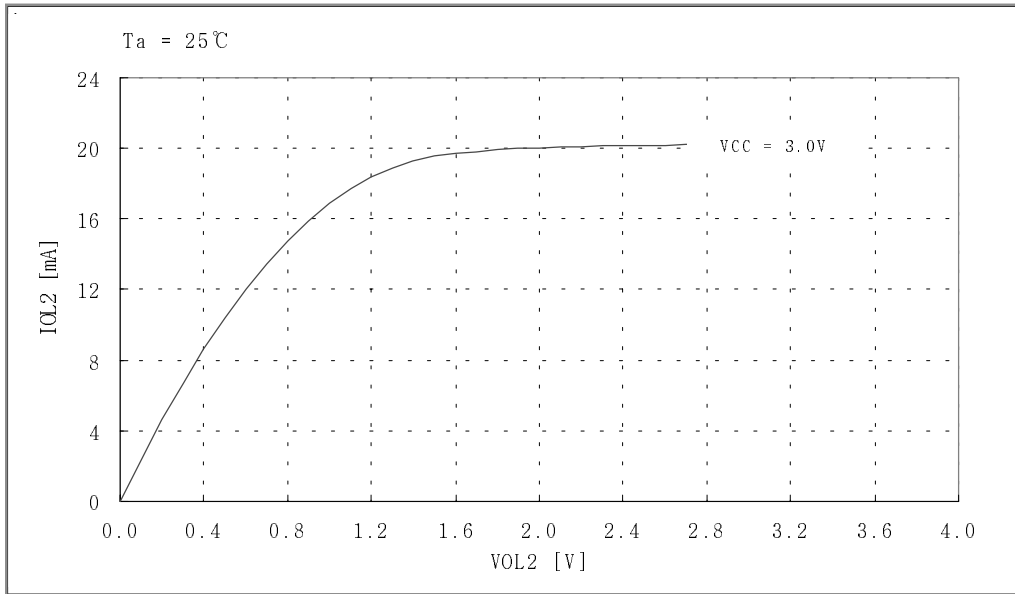
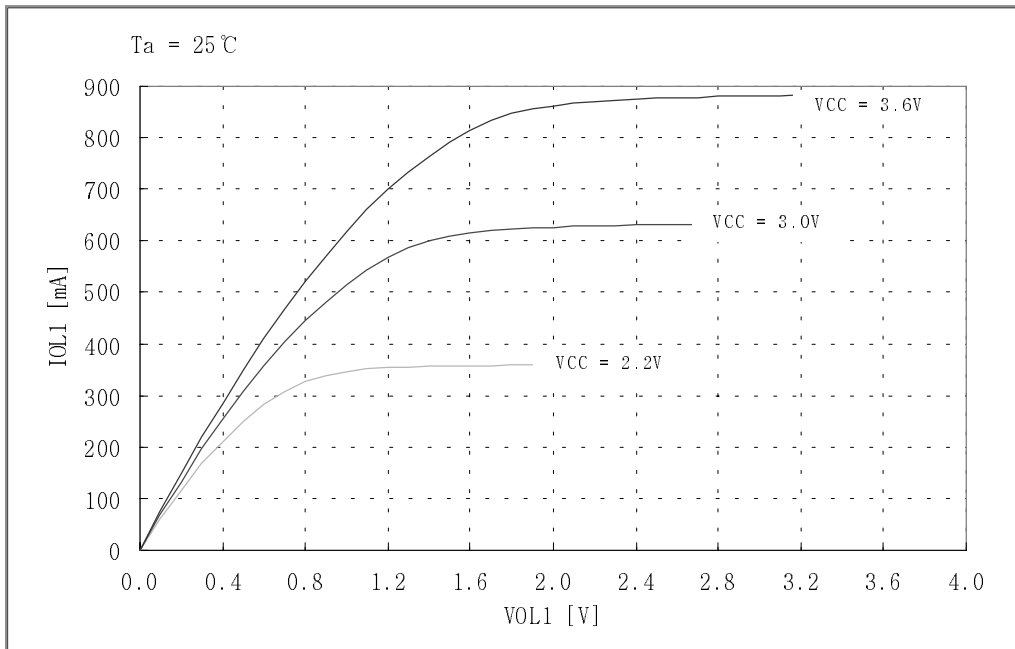

Fig 7-1. IOL2 vs. VOL2 Graph. (D, R Port)
Fig 7-2. IOL1 vs. VOL1 Graph. (REMOUT port)
*1 Refer to < Fig.7-1 I_{OL2} vs. V_{OL2} Graph >*2 Refer to < Fig.7-2 I_{OL1} vs. V_{OL1} Graph >*3 I_{DD1}, I_{DD2}, is measured at RESET mode.